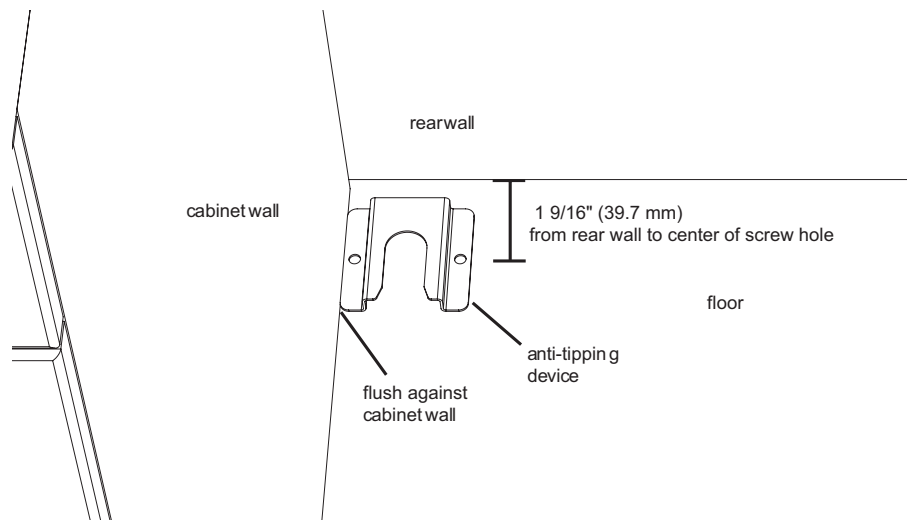

Figure 8: Anti-Tip Bracket
1. Measure to locate bracket position as shown in See Figure 8: Anti-Tip Bracket.